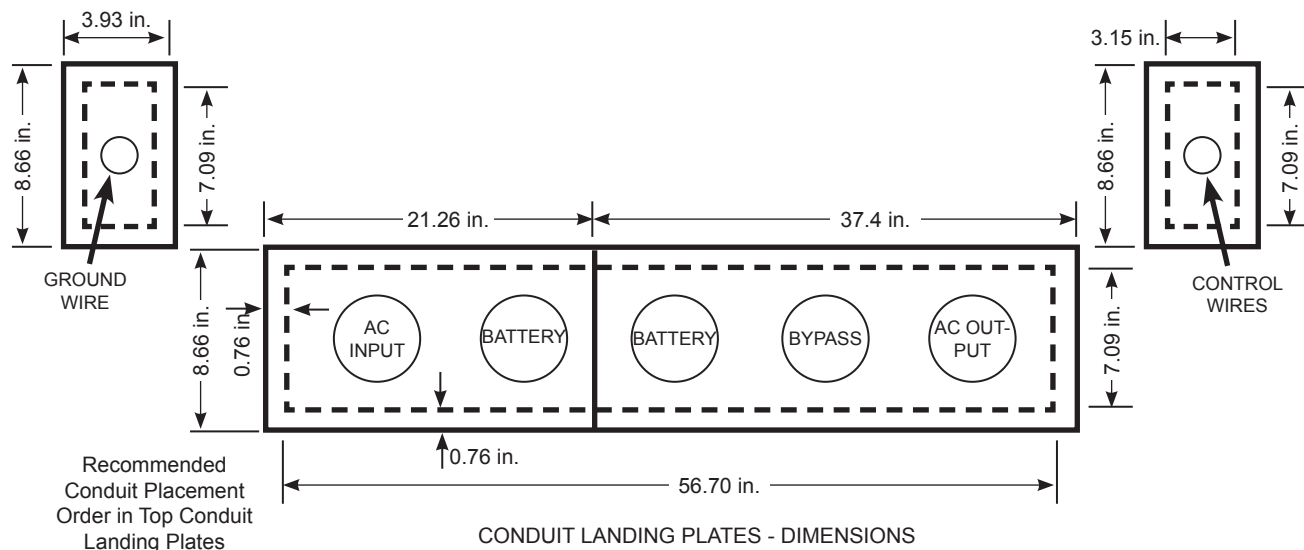

FIGURE 11.12 - TOP ACCESS CONDUIT LANDING PLATES (300 KVA)
Figure 11.12 shows the four (4) cable landing plates provided at the top of the 300 kVA UPS. Seven (7) holes must be punched during installation. The dashed rectangle indicates the UPS opening behind the conduit landing plates.
Use a AWG 2 (or 38 mm²) or larger cable for the grounding wire. Run the grounding wire through the opening at the bottom, or through a hole in the top conduit landing plate (if available). See Figure 11.12. Connect either the top or bottom earth ground bus, but not both, to the grounding wire.